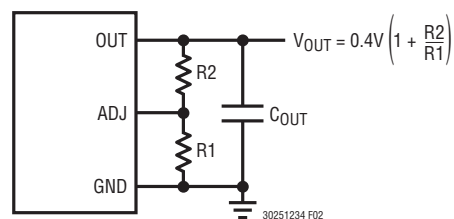

Figure 2. Programming the LTC3025-1
**ADJ (Pin 5) LTC3025-1:** Adjust Input. This is the input to the error amplifier. The ADJ pin reference voltage is 0.4V referenced to ground. The output voltage range is 0.4V to 3.6V and is typically set by connecting ADJ to a resistor divider from OUT to GND. See Figure 2.
The output voltage is set by the ratio of two external resistors as shown in Figure 2. The device servos the output to maintain the ADJ pin voltage at 0.4V (referenced to ground). Thus, the current in R1 is equal to  $0.4\text{V}/R1$ . For good transient response, stability, and accuracy, the current
in R1 should be at least  $8\mu\text{A}$ , thus the value of R1 should be no greater than  $50\text{k}$ . The current in R2 is the current in R1 plus the ADJ pin bias current. Since the ADJ pin bias current is typically  $<10\text{nA}$ , it can be ignored in the output voltage calculation. The output voltage can be calculated using the formula in Figure 2. Note that in shutdown the output is turned off and the divider current will be zero once  $C_{\text{OUT}}$  is discharged.